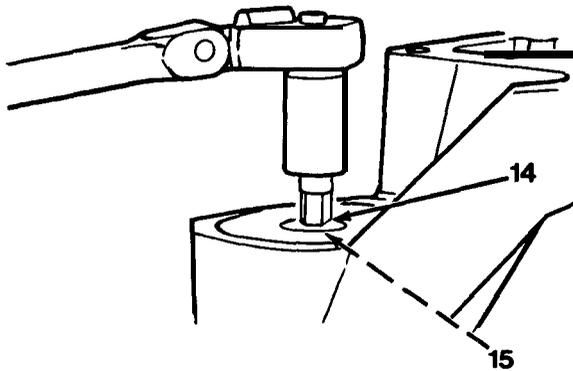

Figure 6-5
1. Secure fan hub in suitable vise. Using a 10 mm allen wrench, remove center bolt (14) and washer (15, Figure 6-5).
2. Install washer (15) and center bolt (14, Figure 6-5). Torque center bolt (14) to 57 lb-ft (77 N•m).